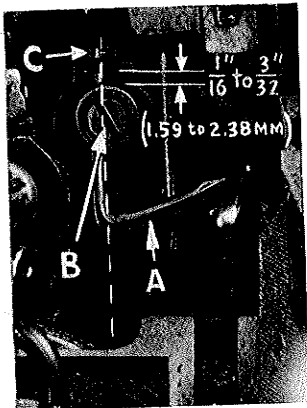

Fig. 9
Insert upper looper (A, Fig. 9) in its holder. Screw (B), holds upper looper in its holder, and permits it to be pushed in or out or turned around its shank. Insert upper looper holder into upper looper shaft, if it is not already in place. Screw (C), on clamp holds the upper looper holder in the shaft. Locate upper looper in its holder so that the shank extends  $1/16$  to  $3/32$  inch (1.59 to 2.38 mm) beyond holder (Fig. 9) for Styles 39500 QS, QT, RD, RL, RT, TJ, TM and TT. For Style 39500 TK the shank should extend  $1/8$  inch (3.17 mm) beyond holder.